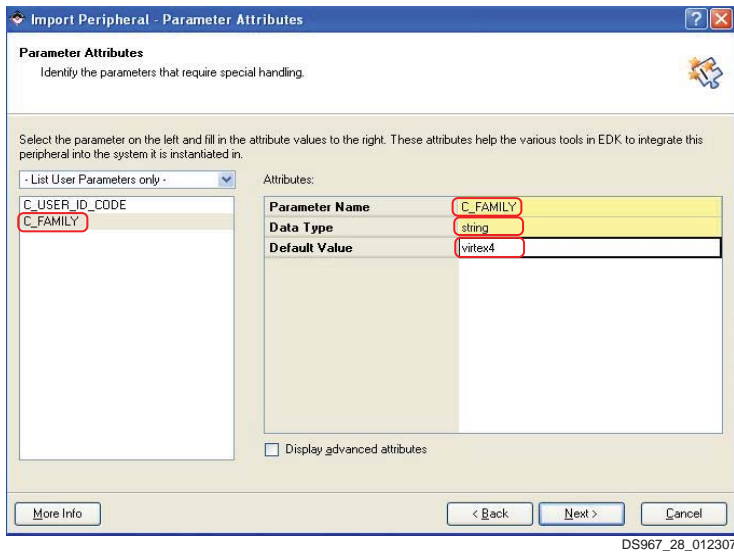

Figure 28: Defining Default Values for the User/IPIF Parameters
11. In the Parameter Attributes window, make the selections shown in Figure 28 to set the default values for the user parameters and for the IPIF parameters.